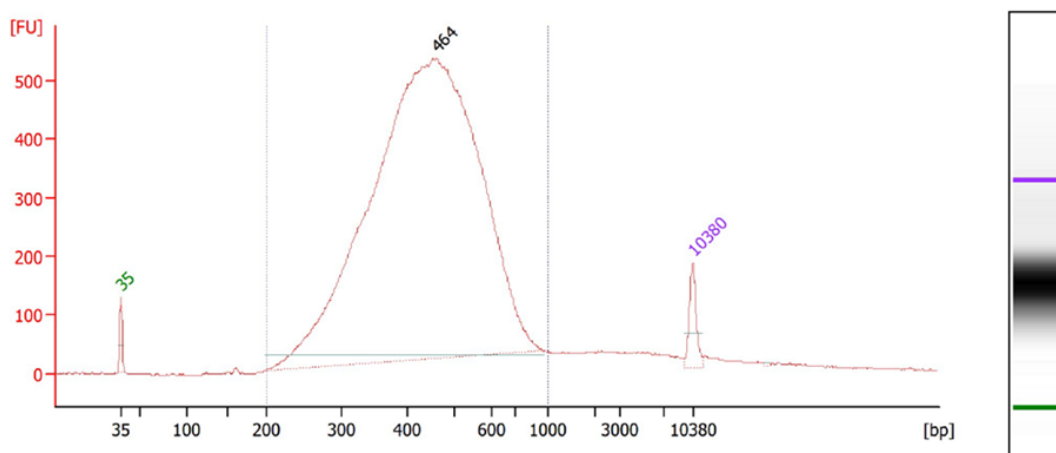

Figure 6. Agilent 2100 Bioanalyzer fragment size distribution of the purified PCR product
- j. Take 1 μ L of purified PCR product and measure the concentration with Qubit dsDNA HS Kit. Use Bioanalyzer, Tapestation (Agilent Technologies), LabChip® GX, GXII, GX Touch (PerkinElmer), Fragment Analyzer™ Advanced Analytical) or other equipment based on the principle of electrophoretic separation to detect the fragment distribution of the purified PCR products. The main peak of fragment distribution is required to be 200-600 bp (Figure 6). Normally, the PCR yield is higher than 100 ng.